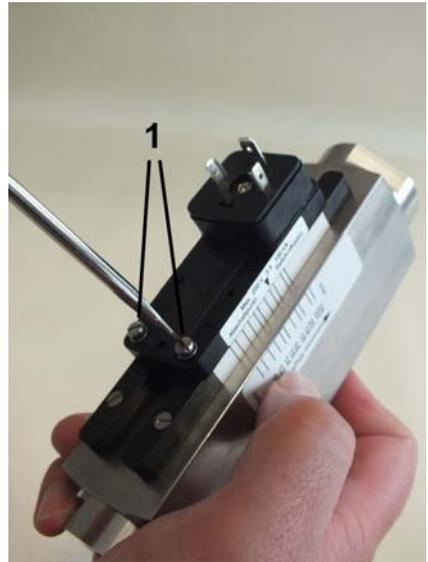

Fig. 53: Loosen set screws
3. ➤ Using a flat-bladed screwdriver (Fig. 53/1) loosen the set screws of the switch contact until it moves freely
11. ▶ Retighten the set screws (Fig. 53/1) observing the tightening torque of the screws (↳ *Chapter 11.1 "Tightening torque" on page 77*)